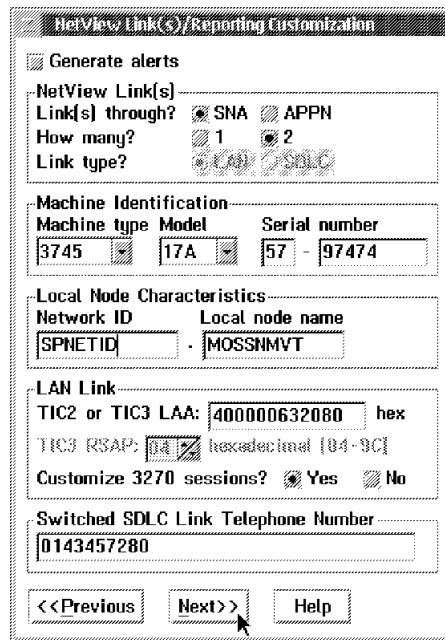

Figure 8-2. NetView Link/Reporting Customization
Local Node Network ID (Figure 8-2 on page 8-3)	Partner network ID (Step 13 on page 8-9) and Network ID (Step 14 on page 8-9)
TIC2 or TIC3 LAA (Figure 8-2 on page 8-3)	LAN Destination address (Step 13 on page 8-9)
TIC3 RSAP (Figure 8-2 on page 8-3)	Remote SAP (Step 13 on page 8-9)
**Step 5.** Record the values in the **Network ID**, **TIC2 or TIC3 LAA**, and **TIC3 RSAP** fields (see Figure 8-2 and refer to Table 8-1 on page 8-2). Then click **Next**.